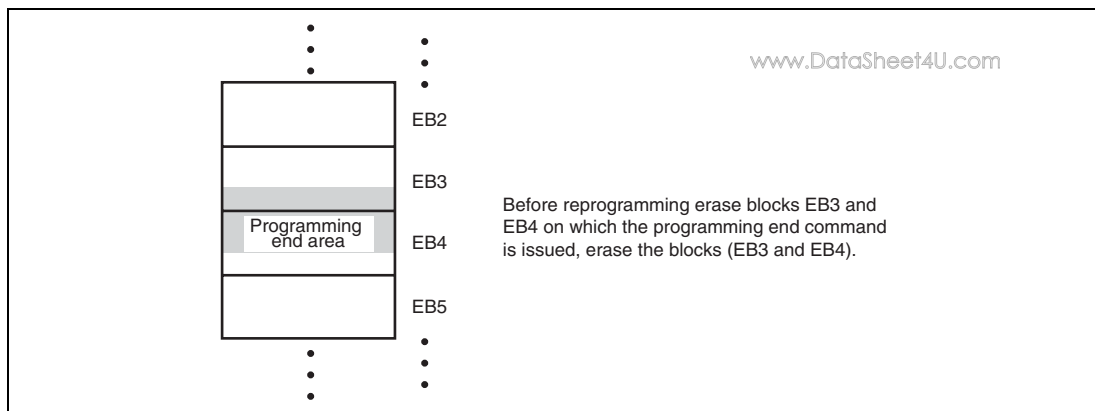

Figure 7.5 Example of Erase Block Including Programmed Area
4. When completing erasure of the user ROM area, this LSI enters the programming/erasure-command wait state. After transmission of the programming selection command, the host should transmit the address at which the programming should start and the programming data. When programming is completed, the host should transmit H'FFFFFFF as the programming start address to terminate programming. This allows this LSI to return to the programming/erasure-command wait state from the programming-data wait state. If the above programming-termination command is once issued to an area in an erasure block and when that block is to be programmed again, erase the block before programming. Figure 7.5 shows an example of an erasure block containing the area that has been already programmed.